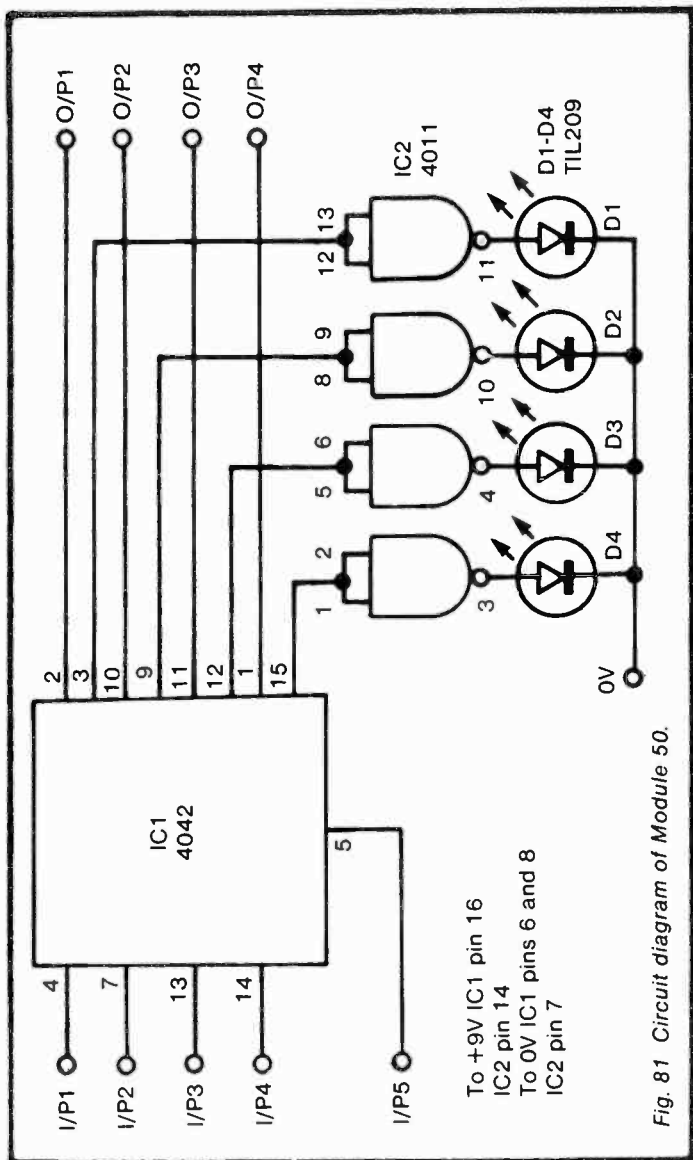

Fig. 81 Circuit diagram of Module 50.
*Circuit diagram:* see Figure 81.